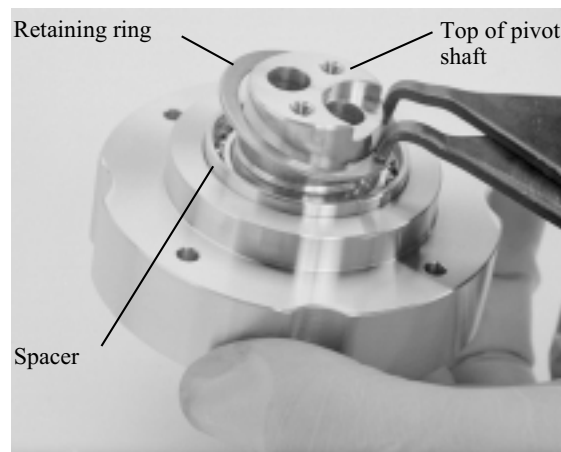

Figure 5-27. Removing the retaining ring that holds the bearing housing together
Perform the steps described below and refer to Figures 5-27 and 5-28 when disassembling the bearing housing assembly.
Step 2: Using a snap ring tool fitted with correct-sized prongs, spread the retaining ring and remove it from around the pivot shaft (see Figure 5-27).
Step 1: Put the pivot shaft in place inside the bearing housing, making sure that both parts face the correct direction. Figure 5-27 shows these parts correctly assembled.